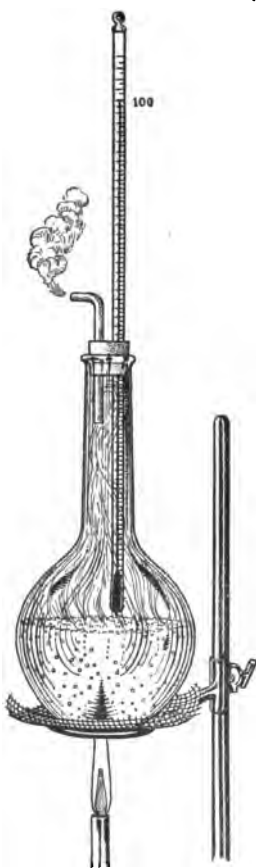

FIG. 159. The evaporation of the water takes up heat, and the temperature of the water and steam does not rise above the boiling point.
**Exercise 5.** Partly fill with water a flask (Fig. 159) provided with two openings. An ordinary teakettle may be used. In one opening place a thermometer. Bring the water to the boiling point and note the temperature of the steam and also of the water. Continue the boiling for several minutes, placing the bulb of the thermometer alternately in the steam and in the water.